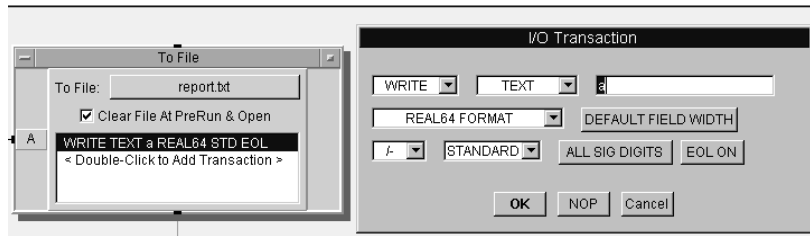

Figure 2.8. The ToFile Transaction dialog box
17. Modify the I/O transaction into ToFile by double-clicking on “WRITE TEXT a EOL”. Change the settings as shown in Figure 2.8.